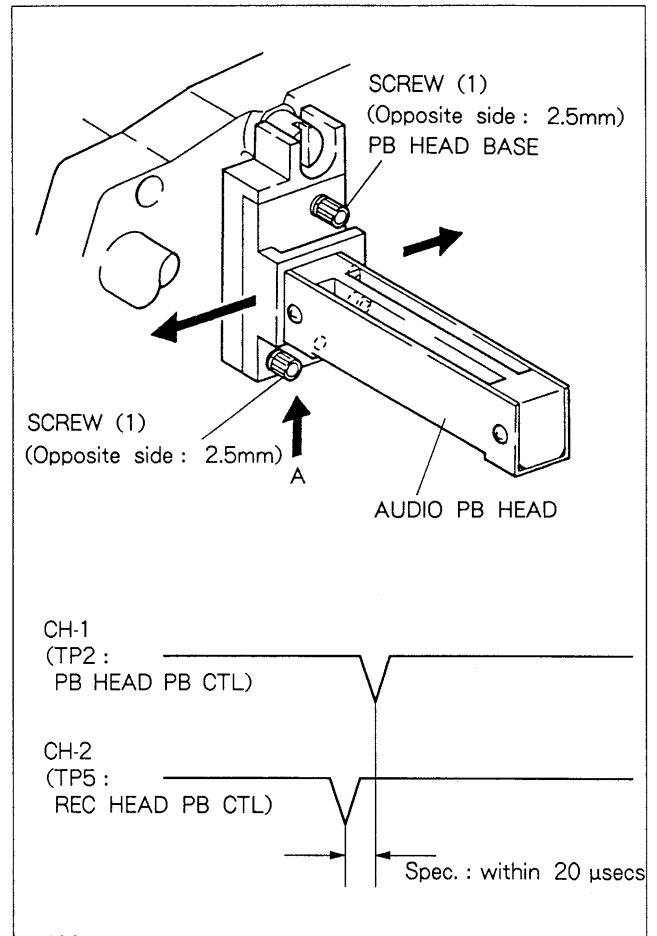

Fig. 9-10-3. 2-Frame Distance Adjustment
2. Loosen the two screws (1) that tighten the PB head base for half or one turn as shown in Fig. 9-10-3.